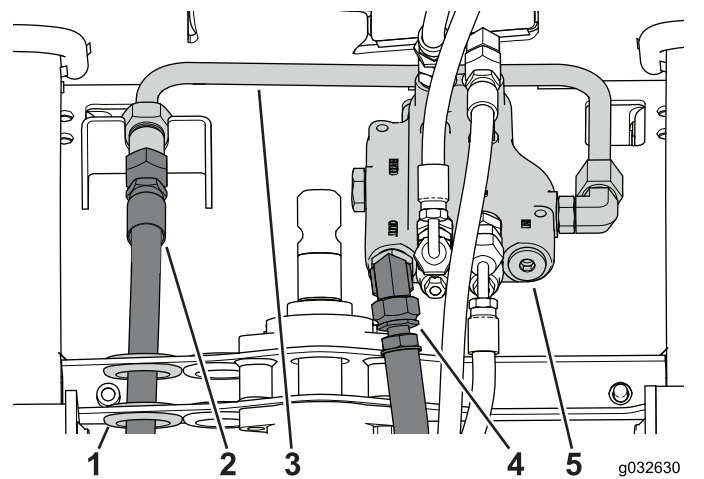

Figure 106
1. Place a suitable drain pan underneath the control valve (Figure 106).
2. Disconnect the supply hose from the tube connector and pull it out of the through hole (Figure 106).
3. Disconnect the return hose from the control valve (Figure 106).